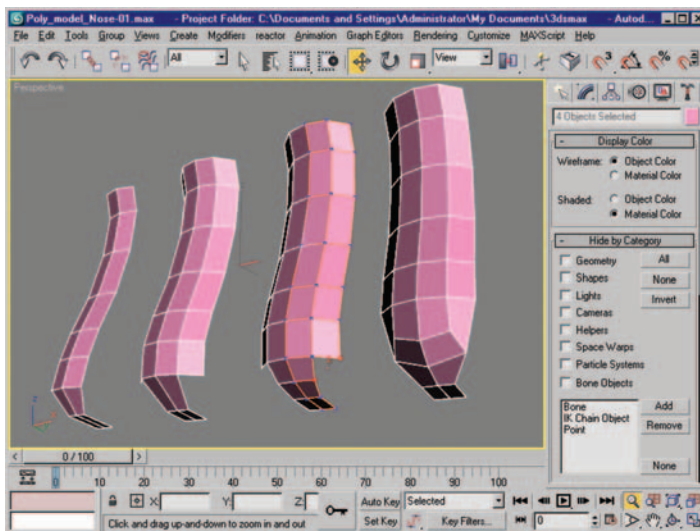

Figure 3.13 From left to right: (1) original mesh, (2) mesh after shift-dragging edges, (3) points selected to collapse, (4) points collapsed.
9. Remember the six edges you just moved? Select them again (Show End Result still toggled on), and shift-drag them to the side of your existing mesh to create another vertical edge loop (Figure 3.13, meshes 1 and 2).
11. Let's add an additional horizontal loop to the bottom of the nose by selecting the bottom right edge and using Ring and then Connect (Figure 3.13, mesh 3).
12. Last, select the two verts shown in Figure 3.13 (mesh 3) and use Collapse to create a directional loop (Figure 3.13, mesh 4). This newly formed edge loop will help to define the shape of the nose and its central mass. This last step is something very powerful that we will cover with more depth a little later on in the book. The bridge, or center of the nose, is pretty well established, so we are going to start forming the nostrils and the area where the nose meets the cheek.